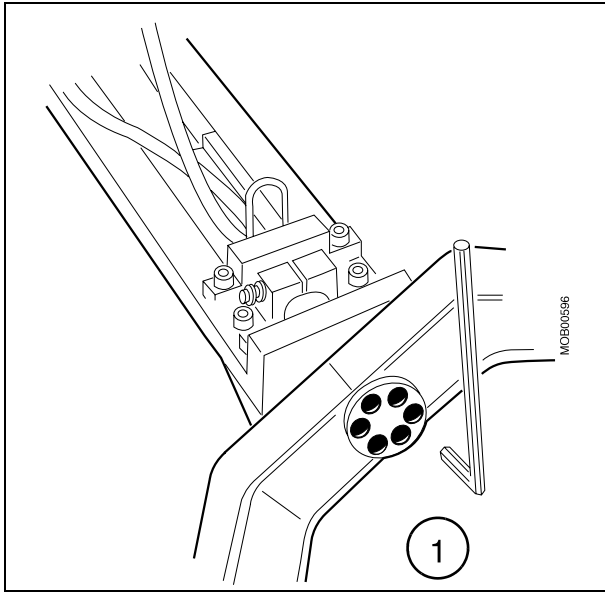

Fig. 15:
- Check and tighten all screw connections of the fork on the support arm (Fig. 15 / p. 36).